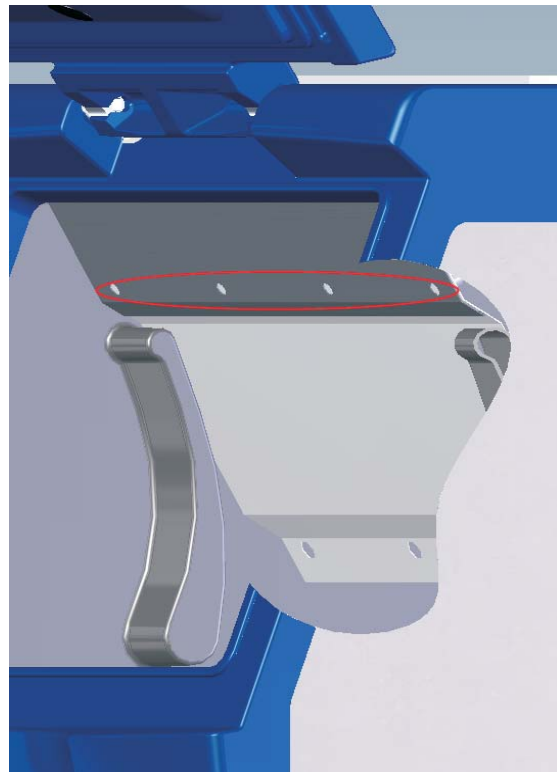

Figure 2
5. Reverse the baffle top-to-bottom and place it (see figure 2) so that the inserts in the baffle are behind the canopy.